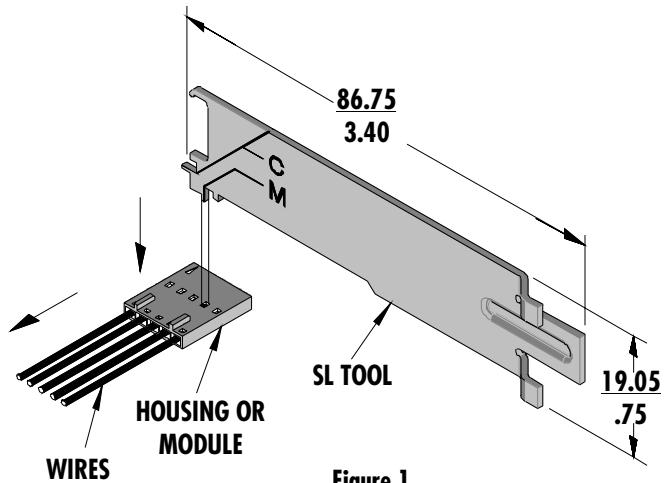

Figure 1
2. Carefully pull the terminated wire out of the connector in the direction of the arrow in Figure 1.